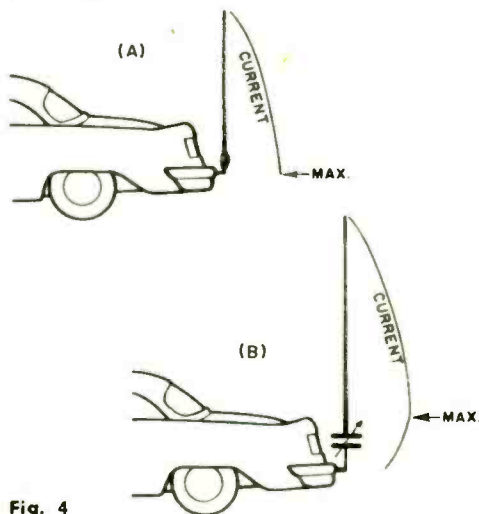

Fig. 4
When the antenna is extended, two other important improvements result. The increased length lowers the radiation lobe of the antenna. This means that the signal will travel more parallel to the ground, resulting in a stronger signal at the receiving stations. Secondly, the high current area of the antenna is removed from the body of the car. The whip antenna radiates from the high current area of the whip, which is at the base. By extending the whip, the high current area is moved up and away from the car body, increasing radiation and improving the radiation pattern. Figure 4 illustrates this point. (A) is a standard whip with the current distributed as shown. (B) is an extended whip, illustrating how the current node is moved up the antenna.